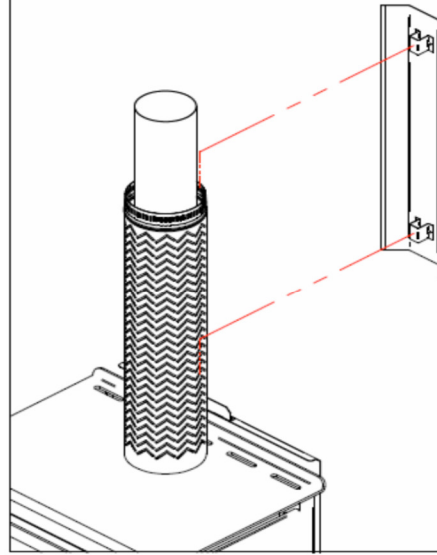
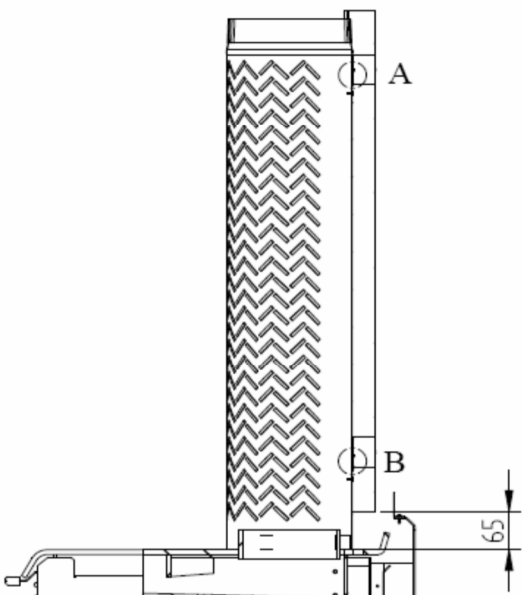

Figure 7
Figure 8
7. Make sure the bottom of heat shield is 65 mm from the top surface of cook top as shown in Figure 7 and hooking correct, as shown on Figure 8.